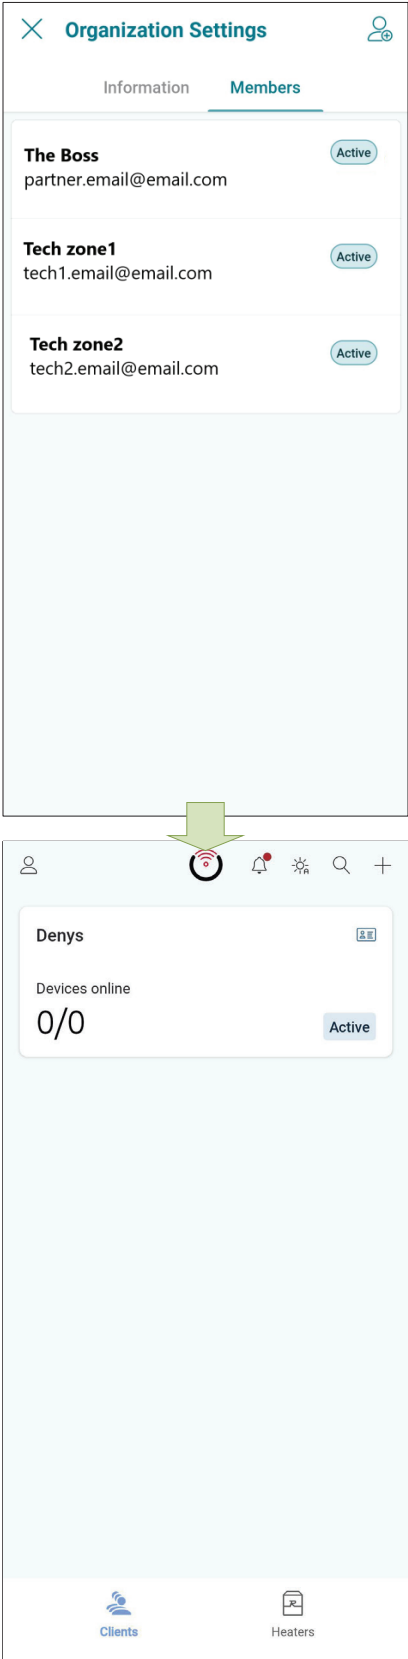

Figure 107. Partners Accounts with Multiple Clients
• In Raymote Partner accounts, you can add members of your company to gain access to heaters and clients registered within your Organization. See **Figure 107**.